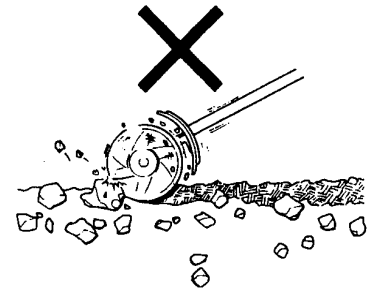

Fig. 9
- Do not work in rocky area. If the tines jammed with rock or hard soil, or tangled around with long grasses, shut off engine first, then remove the obstruction. (Fig. 9)